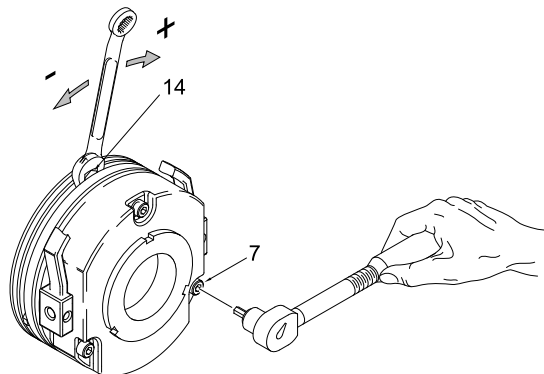

Figure 53 – Adjusting the Traverse Brake Air Gap
Where adjustment is required, loosen the assembly screws (7) by half a turn. Adjust the air gap by turning the adjustment tubes (14) until the required air gap is reached (see Figure 53).
- If the air gap is too large, screw the three adjustment tubes (14) into the stator. If the air gap is too small, screw the adjustment tubes out of the stator.